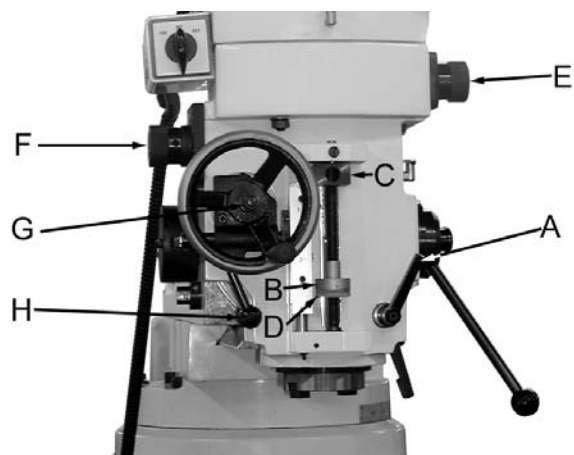

Figure 9
2. Tighten the quill lock (A, Fig. 9).
3. Screw the micro nut (B, Fig. 9) against the quill stop (C, Fig. 9), and tighten the micro jam nut (D, Fig. 9).
4. Loosen the quill lock, and engage the power feed knob (E, Fig. 9).
5. Choose the downfeed rate (F, Fig. 9).
6. Engage the feed reversing knob (G, Fig. 9).
7. Engage the feed trip lever (H, Fig. 9).